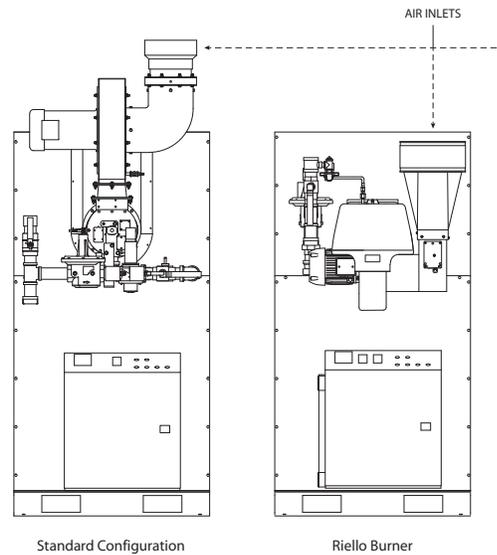

FIGURE 11 - AIR INLET LOCATIONS
1. The combustion air supply can be piped directly to the air inlet (Figure 11) of the boiler.